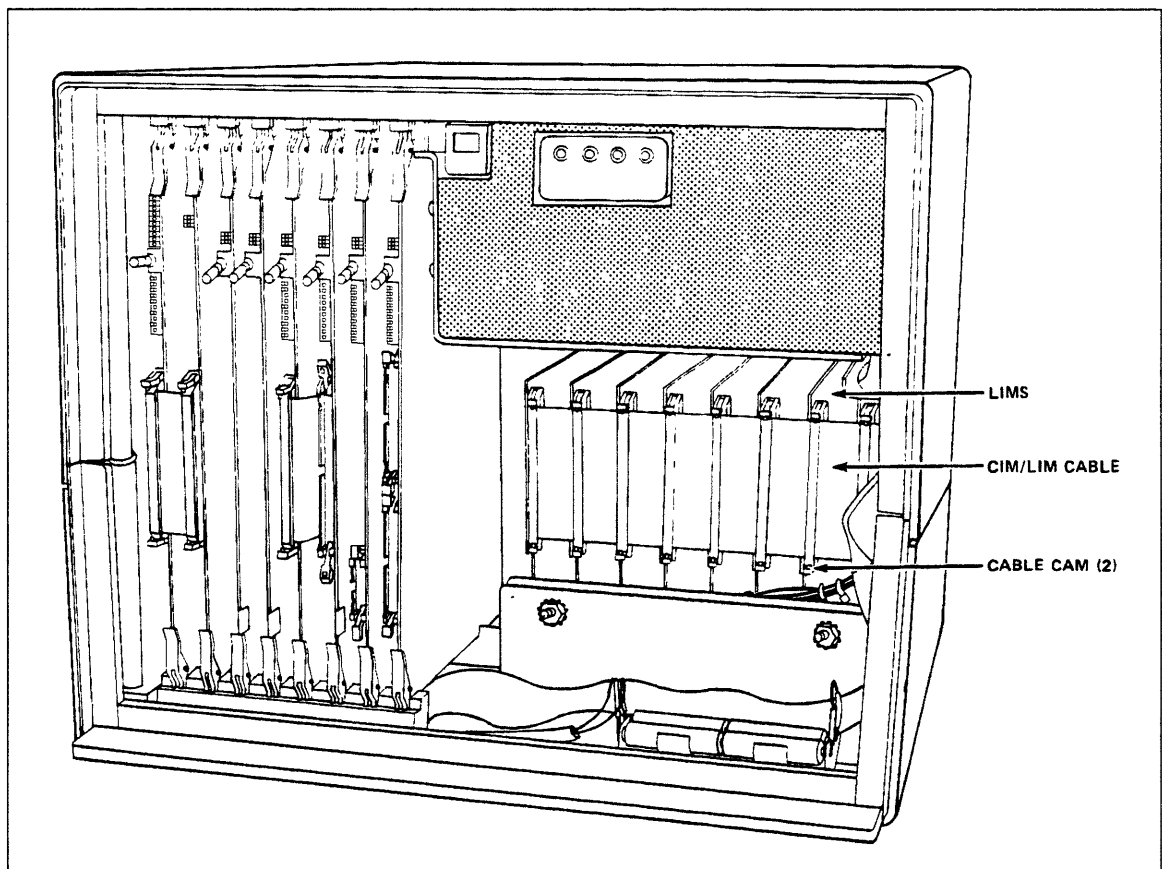

Figure 9-4. CIM/LIM Interconnect Cable
5. Rotate upper and lower cams (figure 9-4) on CIM/LIM interconnect cable on the faulty LIM/URI board, and push board out the back of DI.